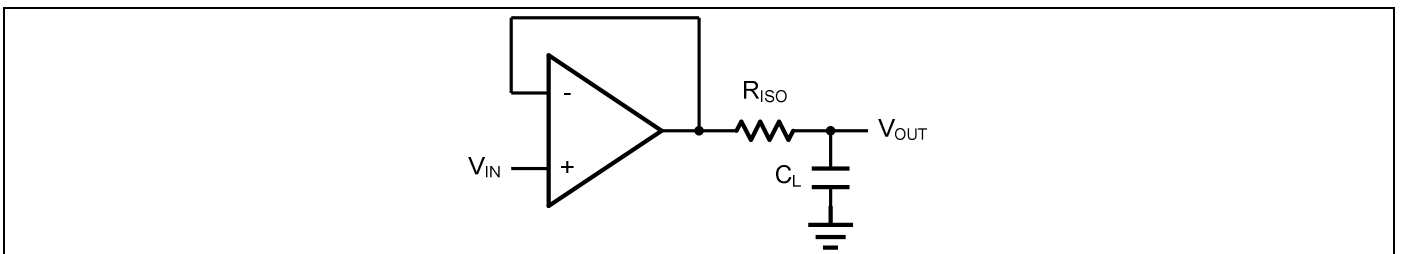
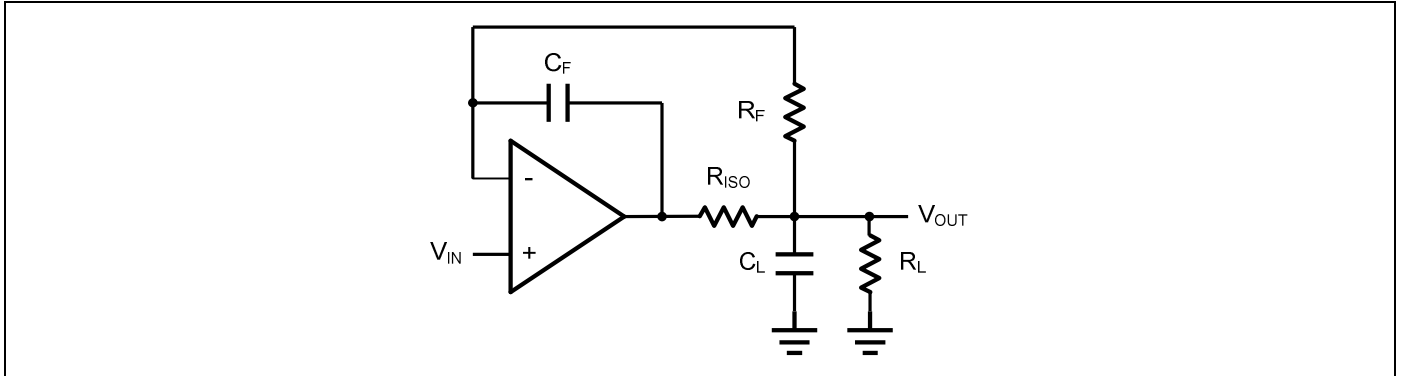

Figure 2. Indirectly Driving a Capacitive Load Using Isolation Resistor
Figure 3. Indirectly Driving a Capacitive Load with DC Accuracy
The LMV321 family is optimized for bandwidth and speed, not for driving capacitive loads. Output capacitance will create a pole in the amplifier's feedback path, leading to excessive peaking and potential oscillation. If dealing with load capacitance is a requirement of the application, the two strategies to consider are (1) using a small resistor in series with the amplifier's output and the load capacitance and (2) reducing the bandwidth of the amplifier's feedback loop by increasing the overall noise gain. Figure 2. shows a unity gain follower using the series resistor strategy. The resistor isolates the output from the capacitance and, more importantly, creates a zero in the feedback path that compensates for the pole created by the output capacitance.
The circuit in *Figure 3* is an improvement to the one in *Figure 2*. R_F provides the DC accuracy by feed-forward the V_{IN} to R_L . C_F